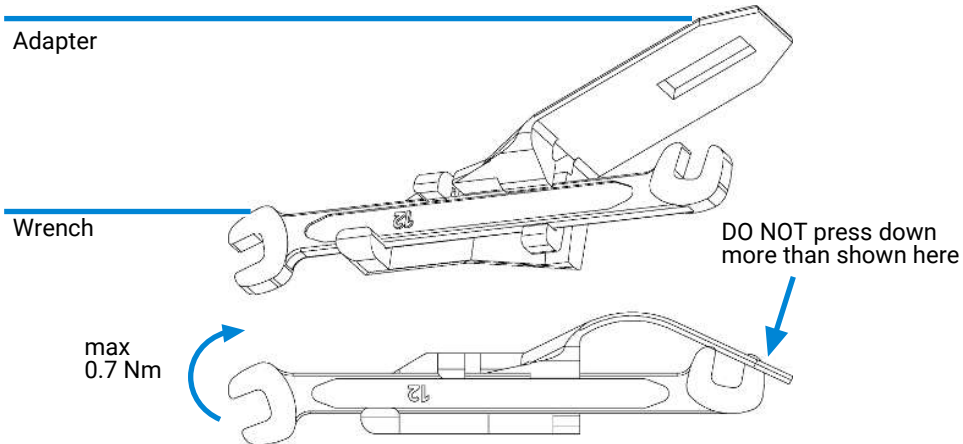

Figure 46: Wrench plus Torque Adapter
- 9 Insert the flow cell capillaries and tighten them fingertight. Use the wrench and torque adapter as described on Figure 46 on page 221 and tighten the fittings alternately.
With the instrument accessory kit comes a 4-mm wrench and with the Sealing Kit a special adapter. Both together work as a torque wrench with pre-defined torque (maximum allowed torque for the cell fittings is 0.7 Nm). It can be used to tight the capillary fittings at the flow cell body. The wrench has to be plugged into the adapter as shown in Figure 46 on page 221.